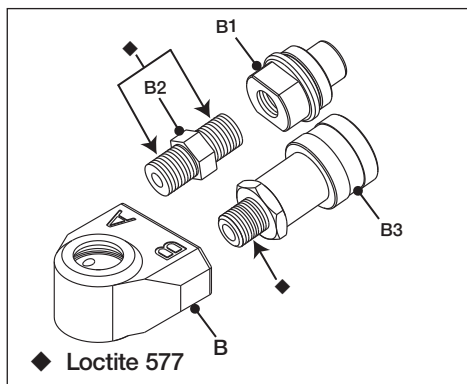

Fig. 17
- Apply Loctite 577 sealant to threads on female coupling (B3) and adapter (B2). See (◆) in Figure 17 for sealant locations.